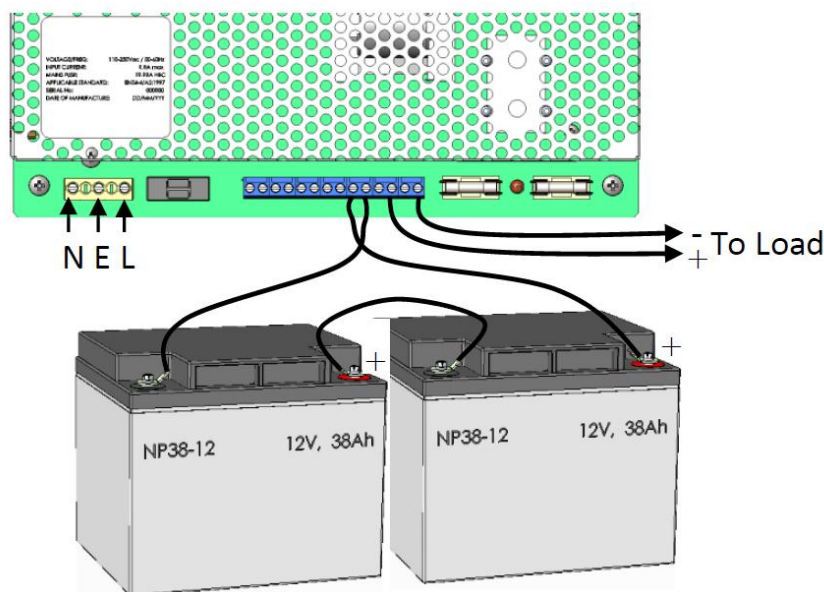

Figure 5 - Power, Load and Battery connections
- 14) Connect the battery temperature sensor (two white wires) to the PCB terminals TEMP SENSOR. See Figure 5.
- 15) If the batteries are housed remotely, replace the battery lead assembly (including battery temperature sensor) with an extended length assembly, provided with the Battery box (Ensure the temperature sensor and battery connections are made according to figure 5).